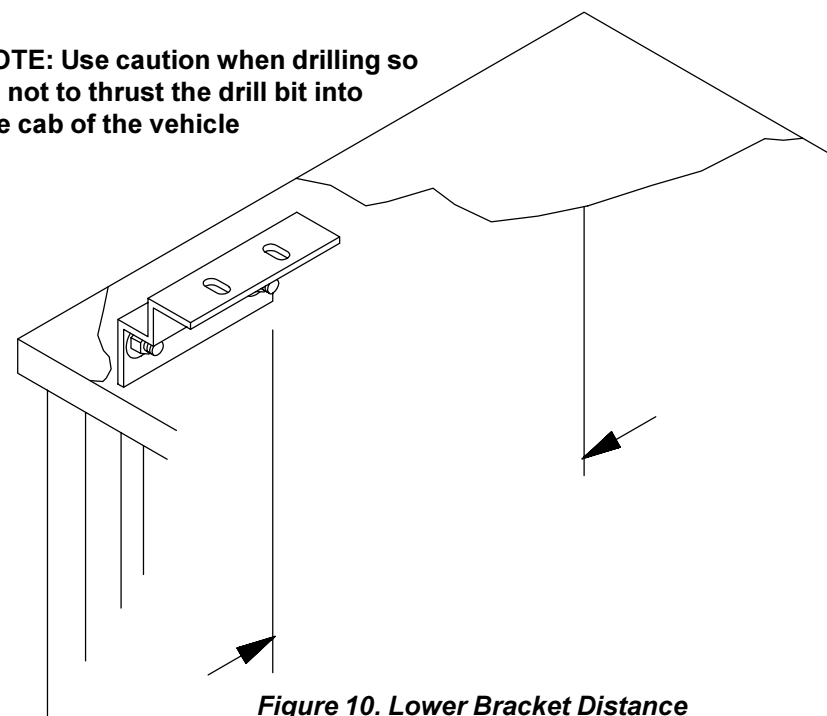

Figure 10. Lower Bracket Distance
**2. Front Leg Support Installation** - With the Leg Supports loosely mounted at the rear, measure the distance from the inside of the service body to the Lower Bracket (see Figure 10.). Use this dimension to position the Leg Support in the service body at the front. Repeat the marking, drilling and fastening procedure shown in Step 1, Option 1.